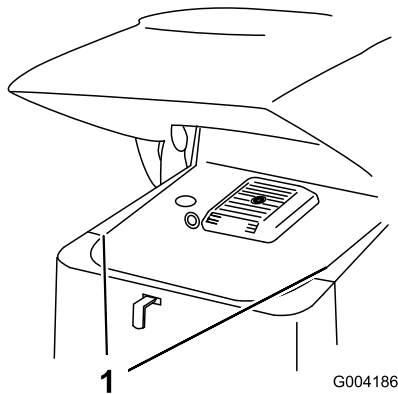

Figure 19
2. Slide the side screens (Figure 19) up and out of the slots in the front screen and frame.